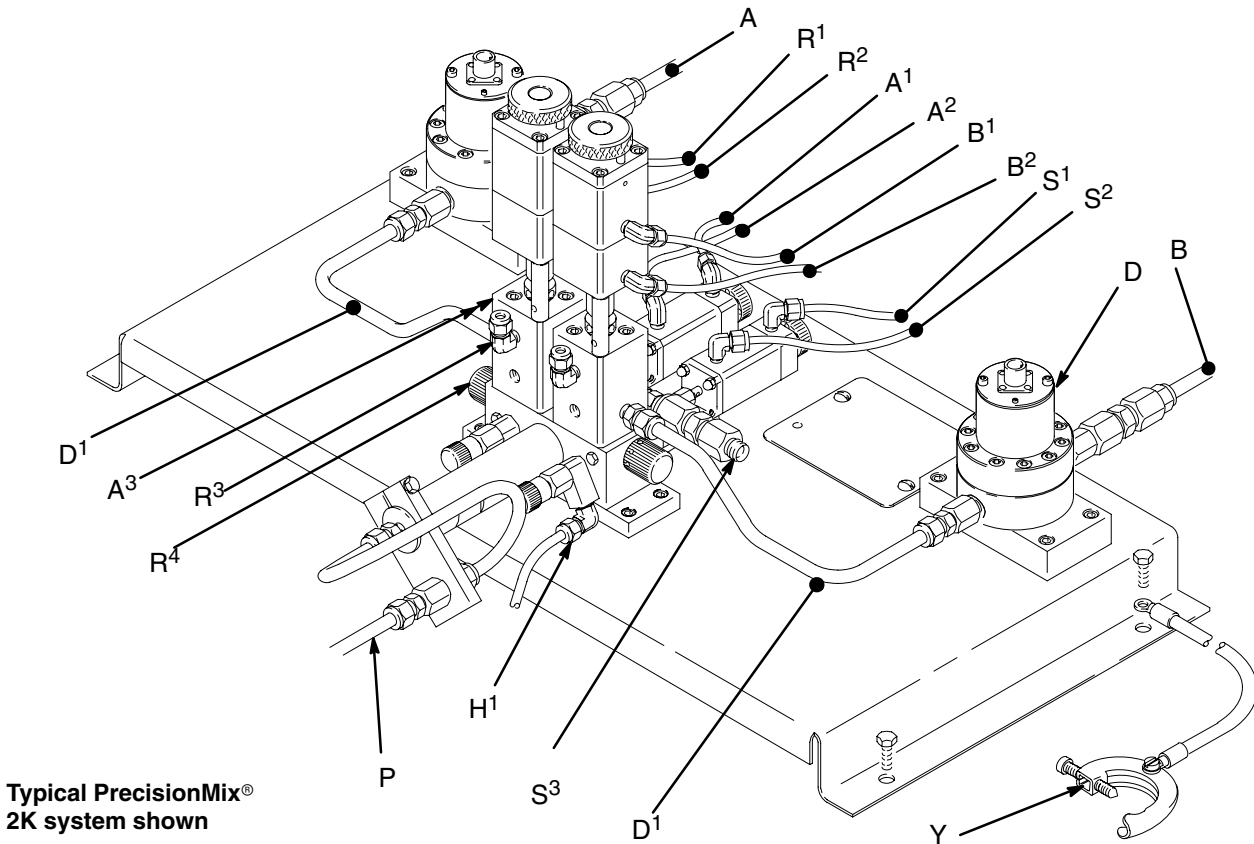

Fig. 6
- To connect the fluid lines, refer to Fig. 6 for 2K systems and Fig. 7 for 3K systems. Also refer to the system binder.
1. Connect the Component A (resin) supply line (A).
2. Connect the Component B (catalyst) supply line (B).
3. On 3K systems only, connect the Component C (reducer) supply line (C).
- To connect the air pilot lines, refer to Fig. 6 for 2K systems and Fig. 7 for 3K systems. Also refer to the system binder.